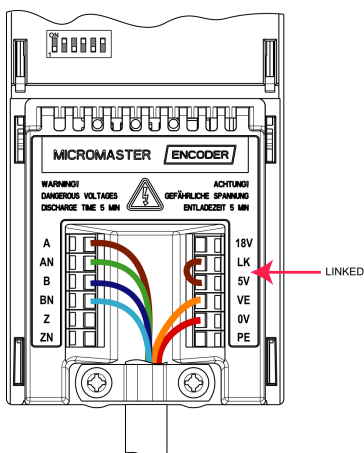

Figure 3-6 TTL Encoder Connections (5V DC)
Figures 3-6, 3-7 and 3-8 show the various configurations of connection for the Encoder Module. A detailed description of the precise configurations of the encoder Module is given in Section 4 – Commissioning.
4. Connect the Channel A wire from the encoder to the 'A' terminal on the Encoder Module. See Figure 3-6 on page 9.